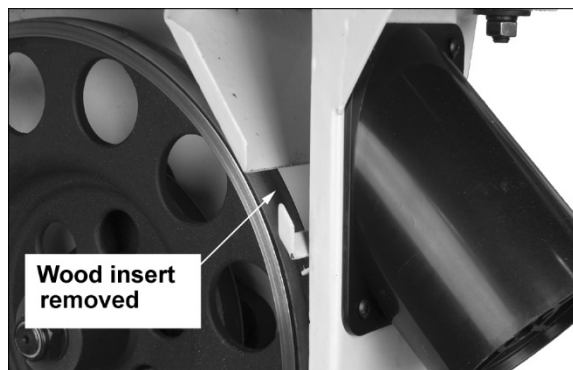

Figure 5-6
7. Remove wood insert (Figure 5-6), if installed.